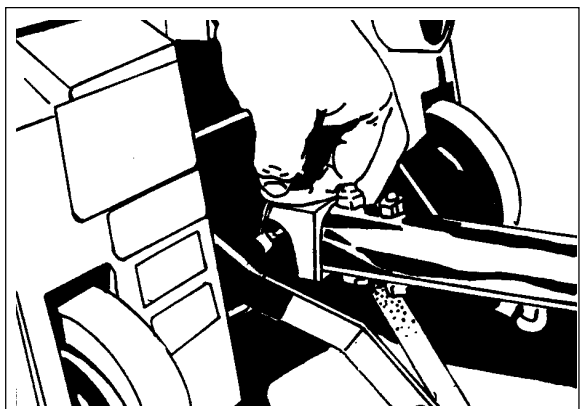

Figure 4
8. Install the cotter pin. See figure 4.